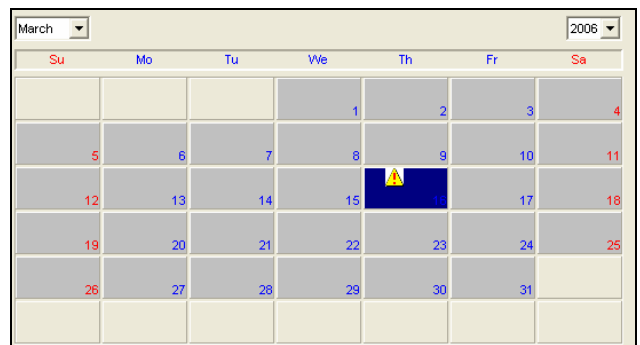

Figure 11.4.5
- Select a day from the calendar by double clicking on it (Figure 11.4.5).